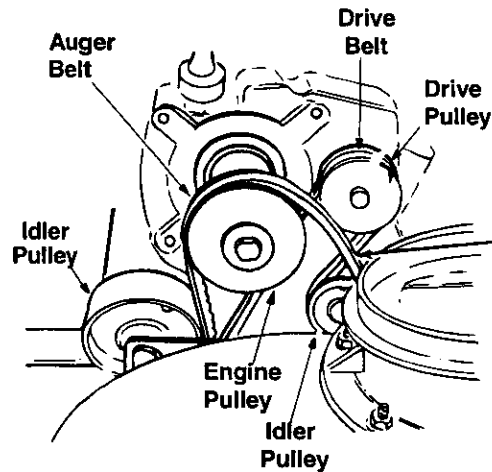

Figure 24
- Roll auger belt off engine pulley. See Figure 24.
- Lift the auger belt from the auger pulley, and slip belt between the support bracket and the auger pulley. See Figure 24.
- Pull idler pulley up, and lift belt off engine pulley and friction wheel disc. See Figure 24.